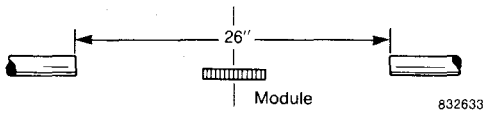

Fig. 29—Splice connector.
- Splice first connector in this position. See Figure 29.